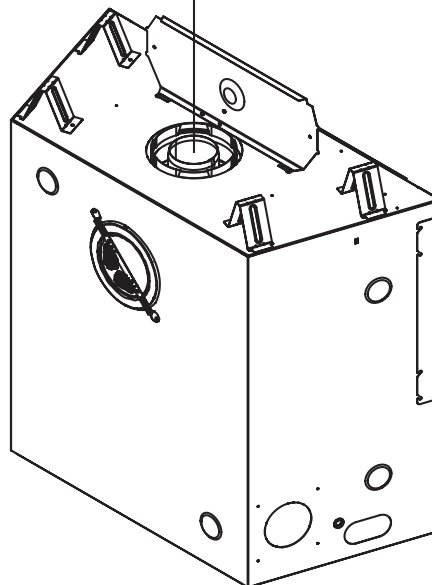

Figure 5.8
1. Install the exhaust restrictor over the center of the exhaust outlet in the firebox (see Figure 5.8).